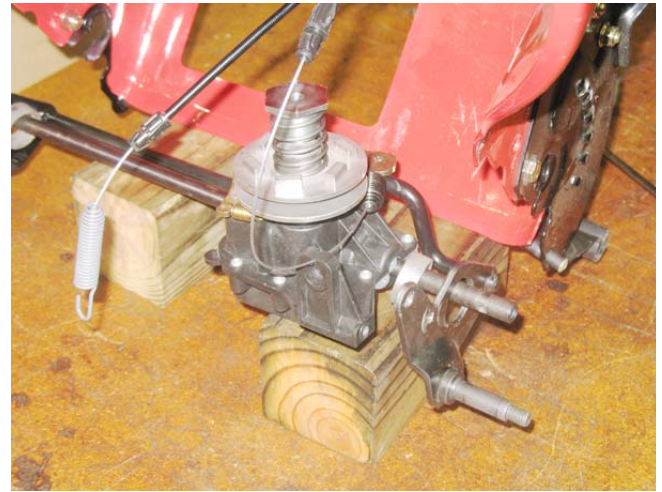

Figure 6.13
- 4c. Once the transmission is free of the deck, the clutch cable can be easily disconnected as described in Chapter 5: Speed control system. See Figure 6.13.